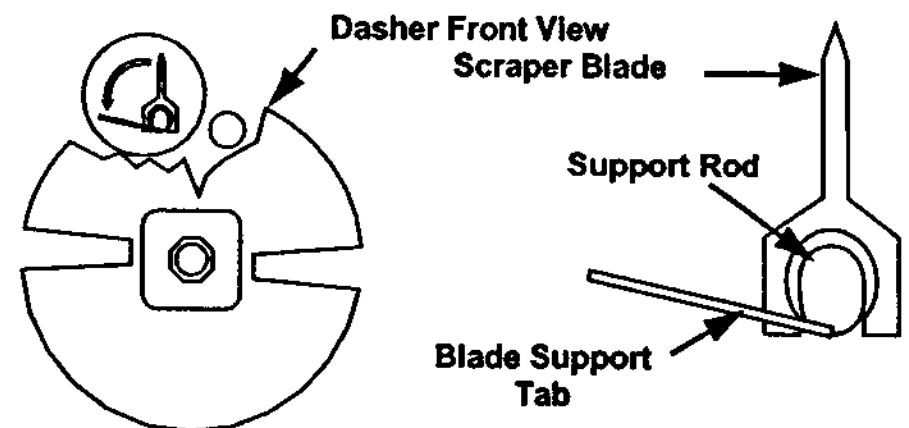
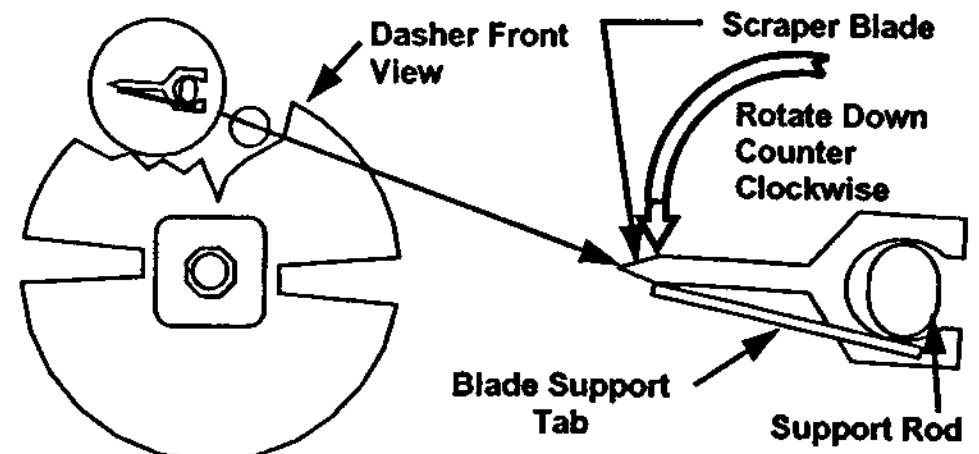

Fig. 14a
Fig. 14b
d. Install the scraper blades on the dasher assembly by holding the blade perpendicular to the tabs (Fig. 14a) and then snapping them over the flat area of the support rod. Then rotate the blade downward in a counterclockwise direction as viewed from the front of the dasher (Fig. 14b).